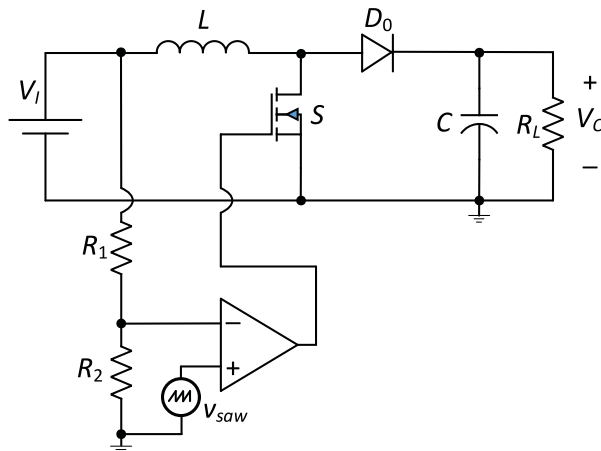

Figure 35.1 Circuit diagram of the PWM boost dc–dc converter with input voltage feedforward control.
1. Construct the circuit shown in Figure 35.1 on the circuit simulator.